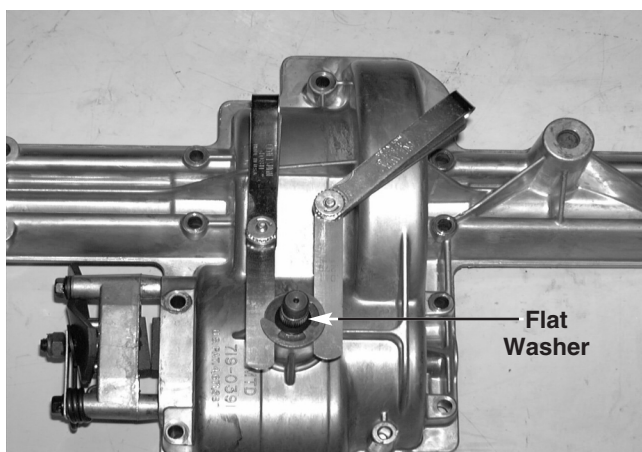

FIGURE 6.
- 16). Place two feeler gauges between the top of the upper housing and the flat washer on the input shaft. See figure 6.